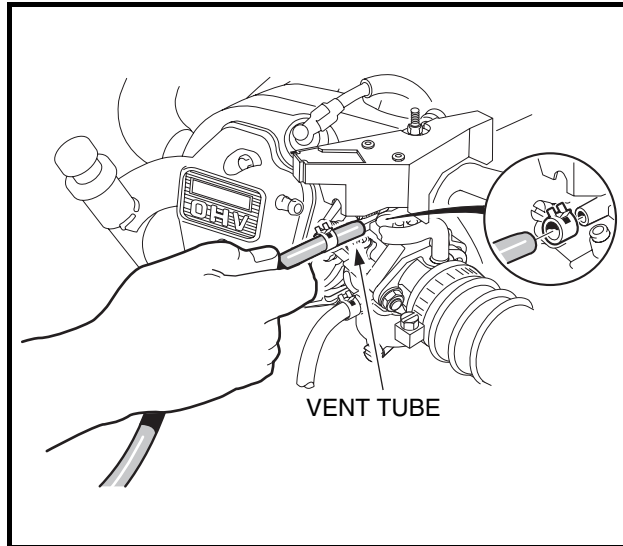

Figure 16-9 Fuel Vent Tube
- 4.1. Disconnect the carburetor vent tube from the carburetor (**Figure 16-9, Page 16-7**).